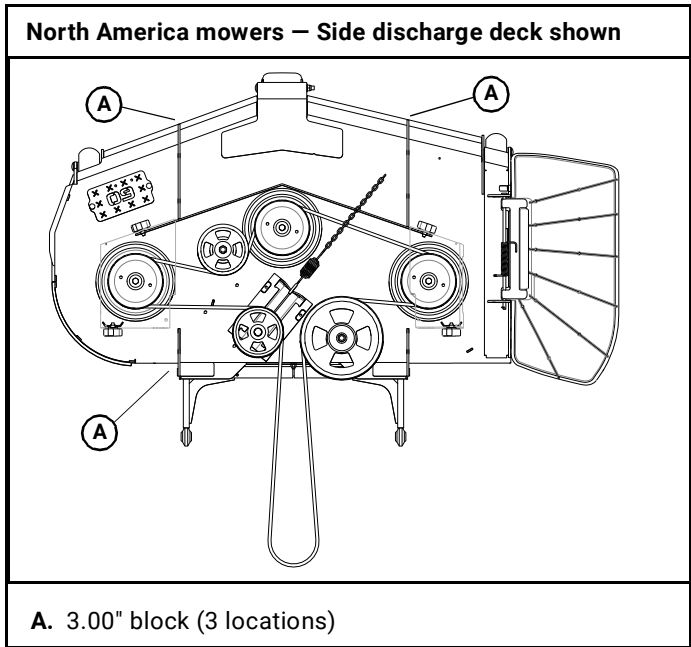

Figure 6-1
3. **Note: North America mowers – Side Discharge Decks –** Place 3" (76.2 mm) high deck support blocks (two stacked 2" x 4" blocks can be used to create a 3" [76.2 mm] high support) at the three points of the deck as shown. Figure 6-1
Back of deck will automatically be set 1/4" (6.35 mm) higher. Figure 6-1